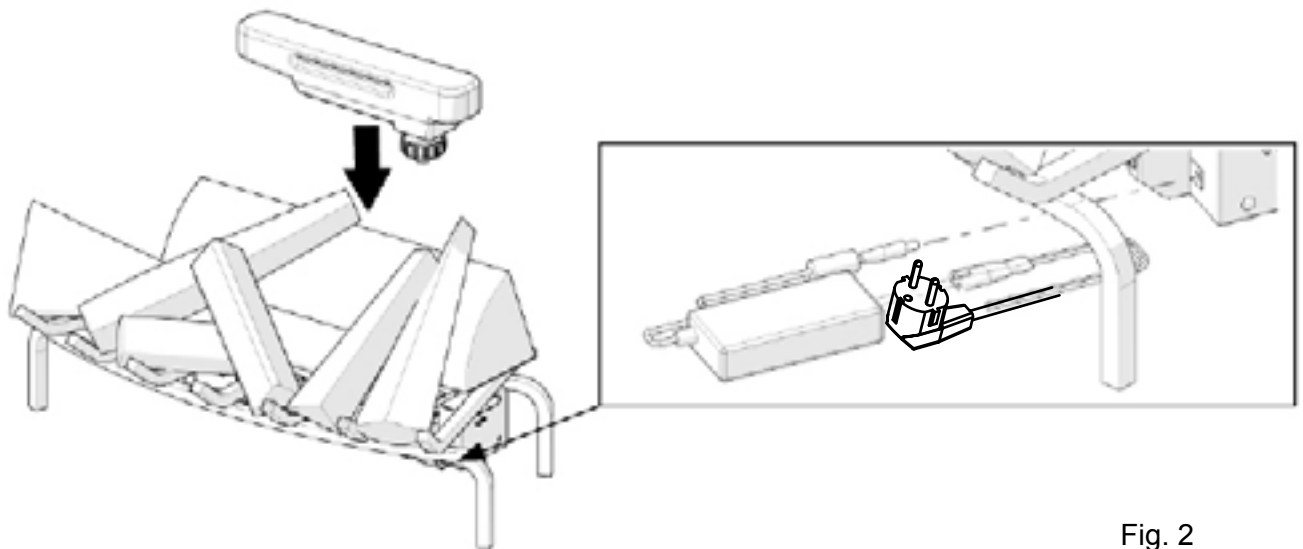

Fig. 2
3) Assemble power adaptor (Figure 2). Plug the power adaptor into the front of the unit, then plug the unit into a power socket